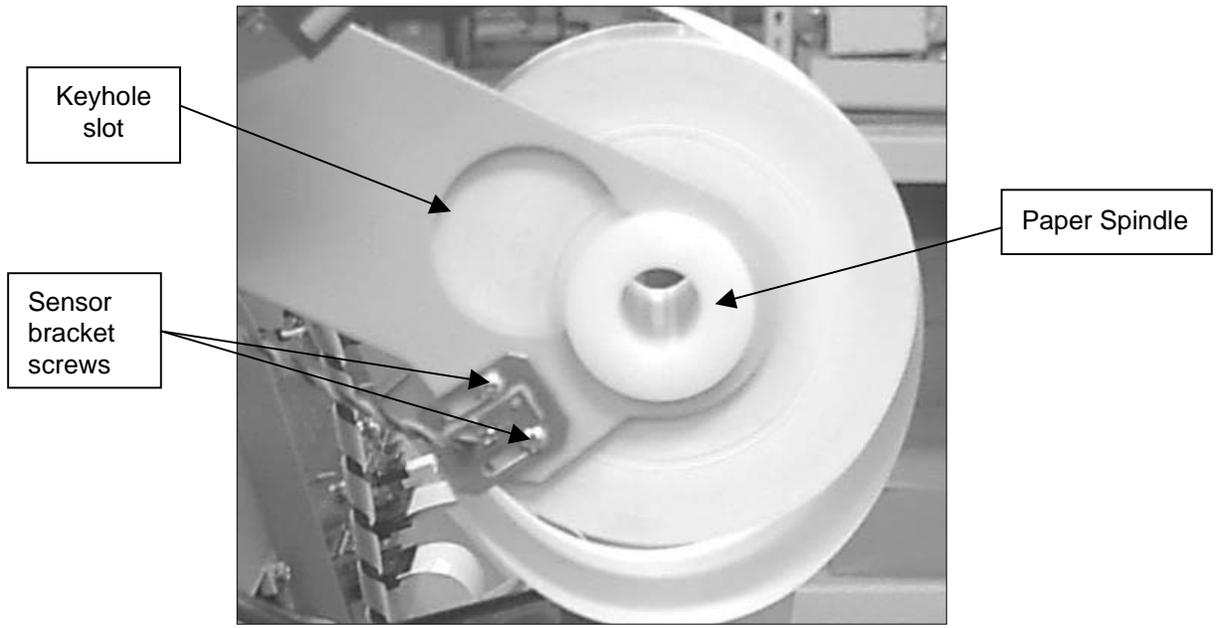

Figure 1
3. Remove the paper roll by sliding the paper spindle up and out the keyhole slot (see fig. 1).
4. Disconnect the old bracket by removing the sensor bracket screws with a Phillips screwdriver (see fig. 1).